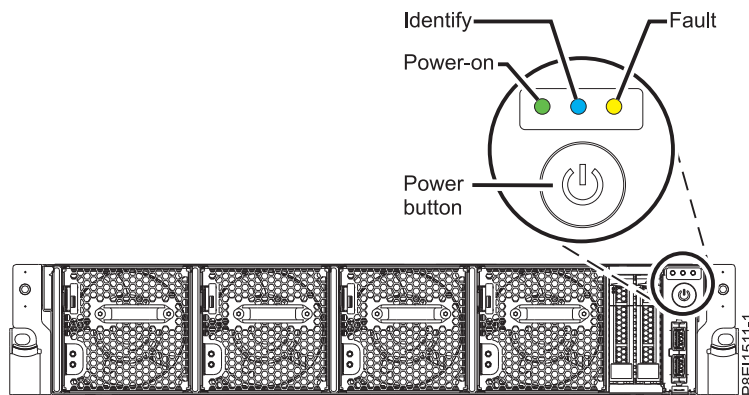

Figure 38. Power button
- The power-on LED as shown in Figure 38, is flashing. A flashing light indicates standby power to the unit.
3. Press the power button shown in Figure 38. The power-on light stops flashing and remains on, indicating that the system power is on. The system cooling fans run at a high speed, and after approximately 30 seconds, return to operating speed.